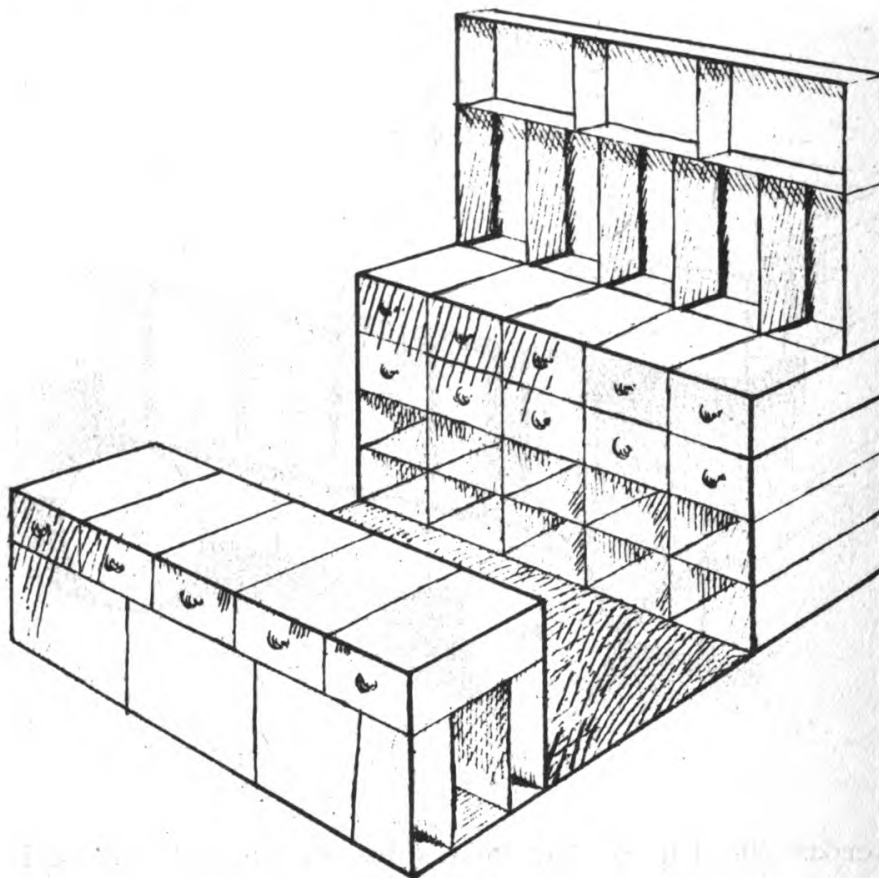

FIG. 25.
*Model Stores.*—Once again this will be best understood by reference to the illustration (Fig. 25). The stores consist of a counter and a back fitment—the two mounted on a